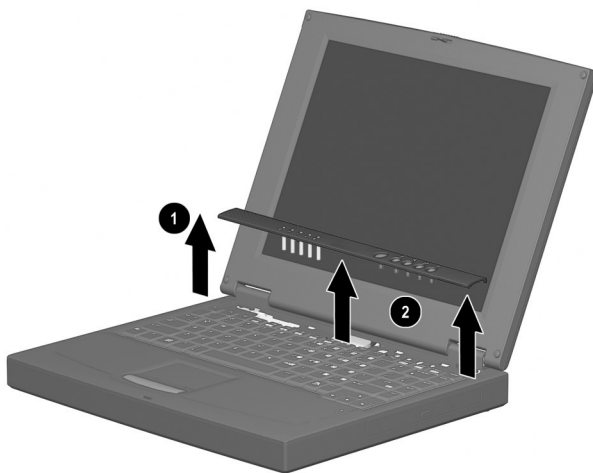

Figure 5-5: Removing the LED Cover
4. Lift up the left edge of the LED cover ❶ (Figure 5-5).
5. Lift up the front edge of the LED cover from left to right ❷.